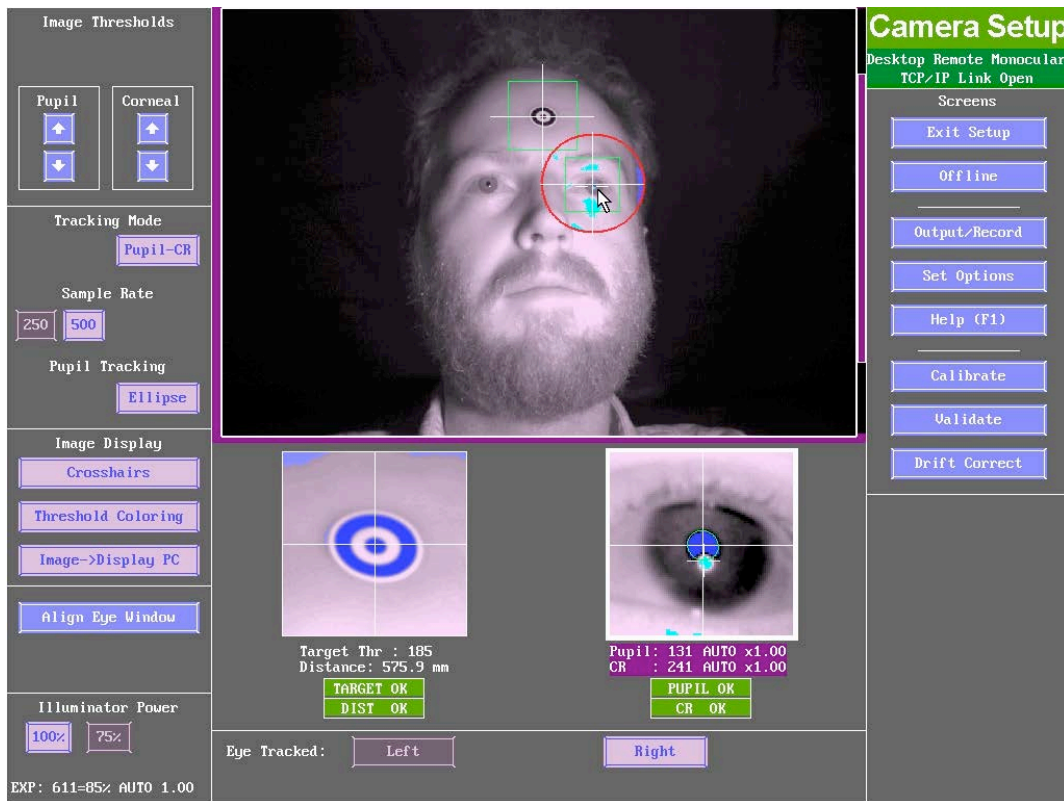

Figure 3-6: Camera Setup Screen with the Monocular Remote Mode
- 6) Make sure the lens cap has been removed. A camera image should now be displayed in the global view of Camera Setup screen. Ask the participant to be seated. Adjust the height of the chair so that the participant is comfortable and his/her line of sight is to the top 25% of the screen. Adjust your mount position so that the eye to be tracked appears in the center of the global camera view (see Figure 3-6).